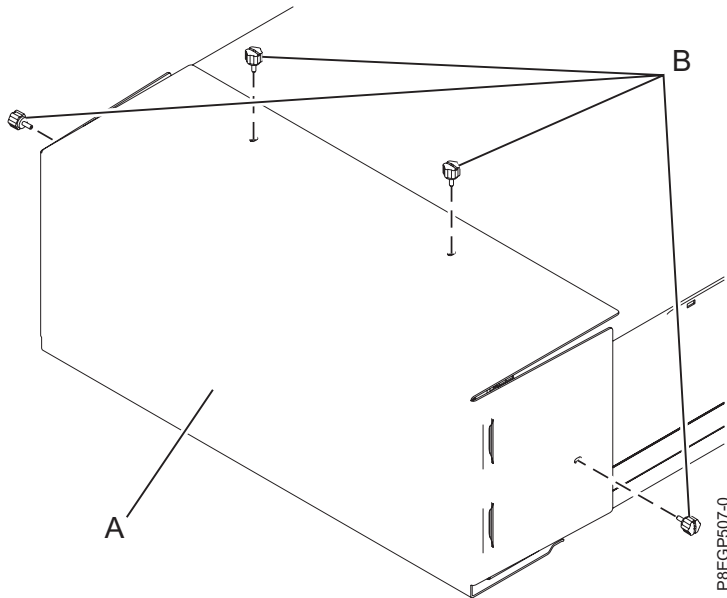

Figure 6. Removing the shipping cover
2. Remove the four thumb screws (B) that are used to secure the shipping cover (A) to the rear of the drawer, as shown in Figure 6 on page 9. Remove the shipping cover.